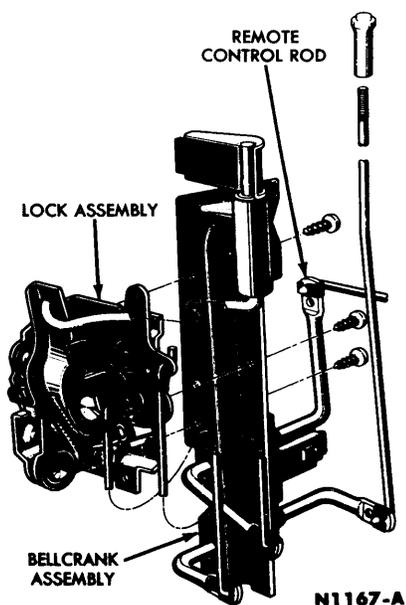

FIG. 3—Door Lock and Bellcrank
2. Disconnect the remote control link at the upper bellcrank (Fig. 3).
2. Reach through the remote control rod access hole and disconnect the remote control rod at the bellcrank (Fig. 3).